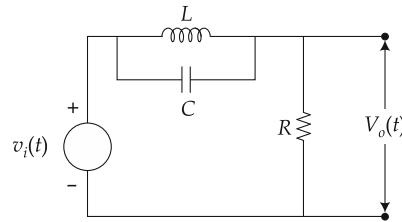

Fig. 2.62
4. Obtain the transfer function of the system shown in Fig. 2.62.